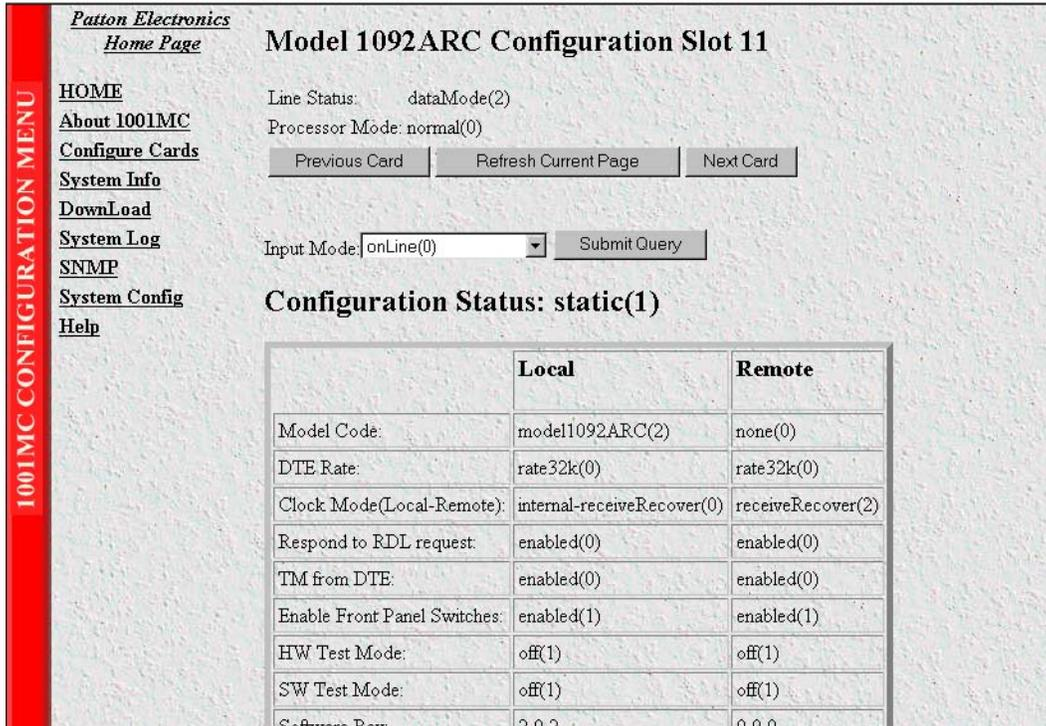
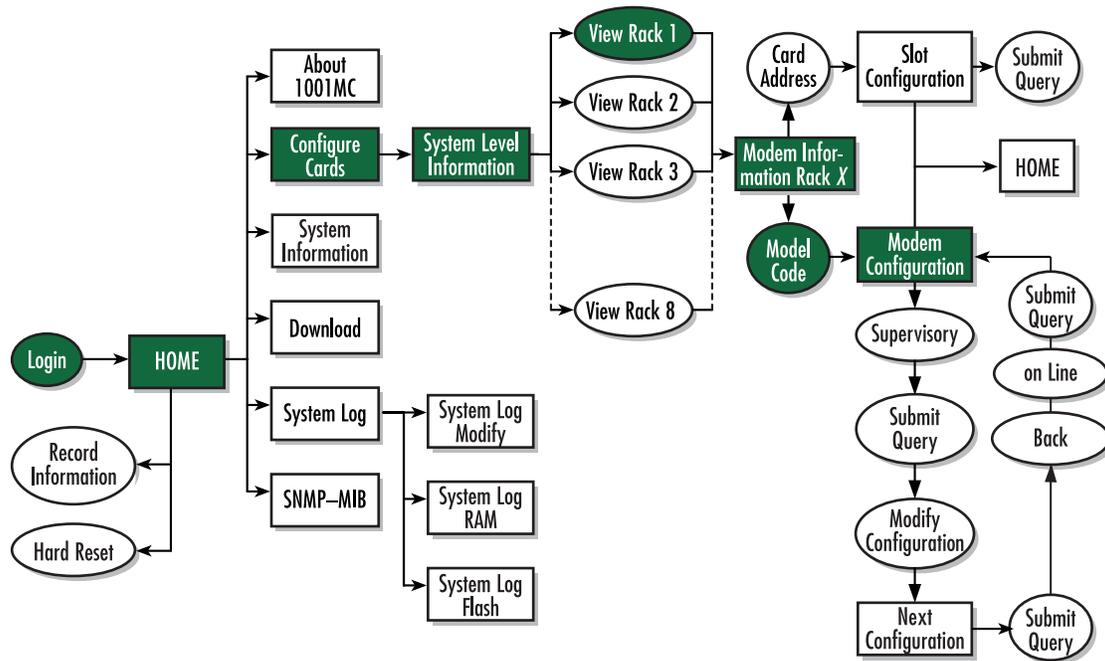

Figure 22. Model 1092 Configuration Slot page
Figure 23. Web page navigation to Model 1092 Configuration Slot page
The Model 1092 Configuration Slot page (see figure 22) enables you to make configuration changes to the Model 1092A and the remote CPE box. When the page displays, the unit is set to the *onLine* state and the current configuration is displayed.
Starting from the HOME page, to access the Model 1092 Configuration Slot page for the 1092ARC, click on the following links: *Configure Cards > View Rack 1 > Local_Model_Code* for the 1092ARC you wish to manage (in the example shown in figure 22, the 1092ARC was installed in slot 11). Figure 23 on page 53 shows the web page navigation required to get to this area of the system.
1. With the Model 1092 Configuration Slot page displayed, change the Input Mode (see figure 22) to superVisoryMode. The Modify Configuration hyperlink will appear.